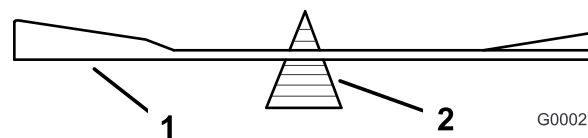
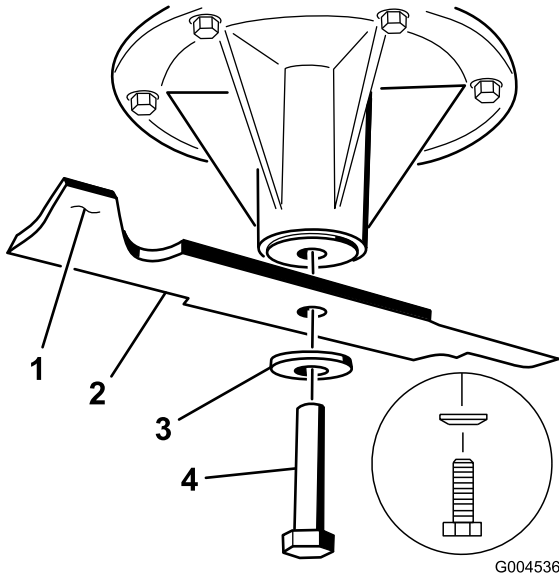

Figure 67
Figure 68
2. Remove the blade bolt, spring disk and blade from the spindle shaft (Figure 68).
2. Check the balance of the blade by putting it on a blade balancer (Figure 67). If the blade stays in a horizontal position, the blade is balanced and can be used. If the blade is not balanced, file some metal off the end of the sail area only (Figure 68). Repeat this procedure until the blade is balanced.
1. Install the blade onto the spindle shaft (Figure 68).
2. Install the spring disk and blade bolt. The spring disk cone must be installed toward the bolt head (Figure 68). Torque the blade bolt to 85-110 ft-lb (115-150 N-m).